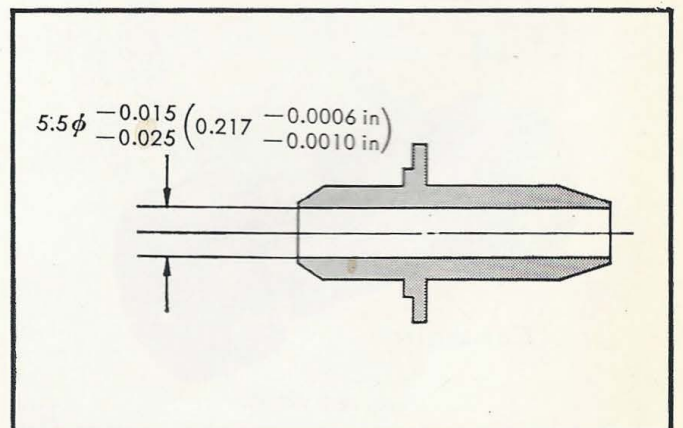

Figure 3-28. Valve guide
(1) Inlet and Exhaust Valve Guide. (Fig. 3-28, 3-29)